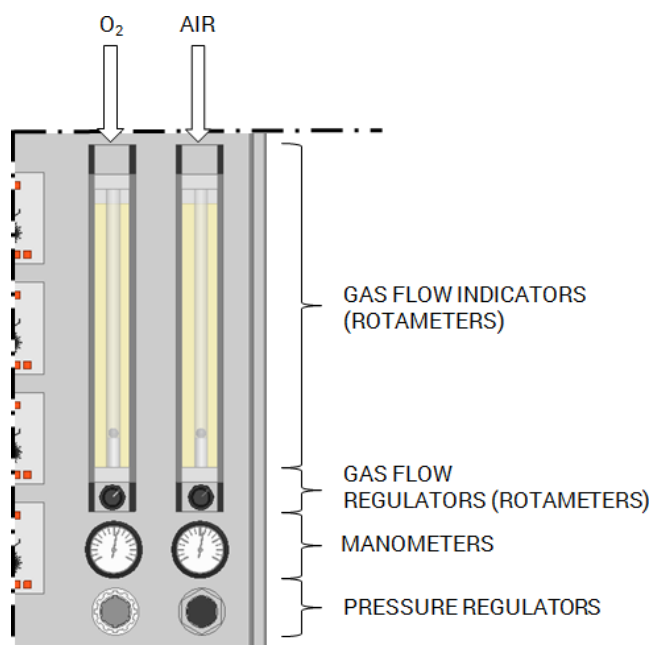

Figure 8.1. Gas flow control equipment
- Pressure regulators (see Figure 8.1).
- 3) Based on the respective manometer reading, set-up the desired gas pressure using the pressure regulator (see Figure 8.1);